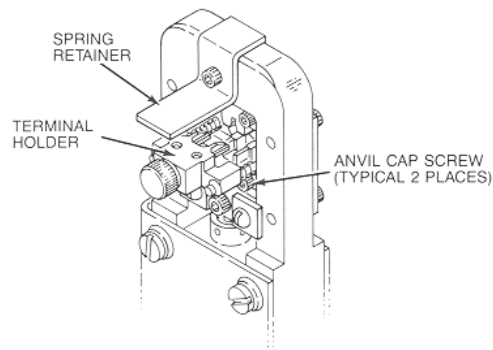

Figure 6
- Using a 3/32-inch Allen wrench loosen the attaching cap screw(s) for the defective anvil(s). See Figure 6.
A pinch point exists between the hand tool's spring retainer and terminal holder (see Figure 6). To prevent injury, always keep your fingers clear of this area when operating the hand tool.